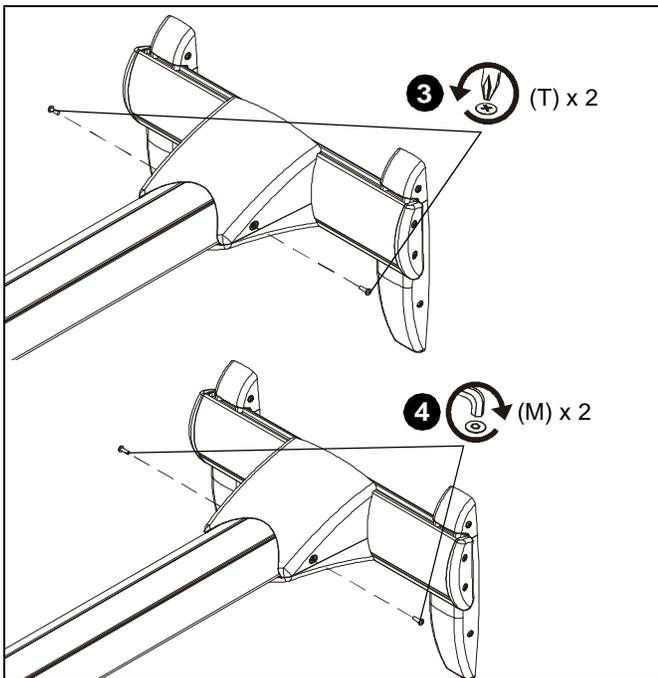

Figure 35
3. Remove two #8-32 x 1/2" Phillips pan machine screws (T) holding mount covers on WMA2S arm. (See Figure 35)
4. Install two #8-32 x 1/2" button head security screws (M) into holes on mount covers. (See Figure 35)